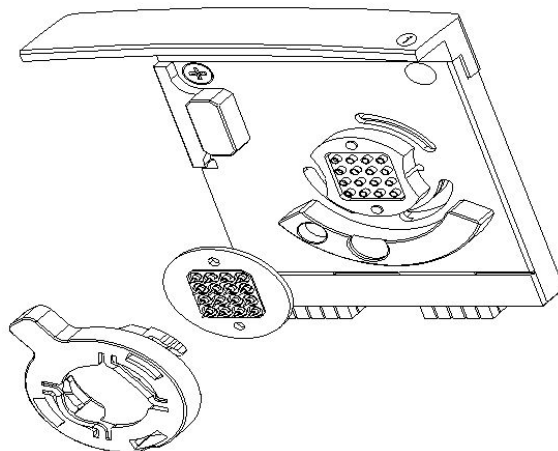

Figure 3 Bayonet cover and pin set
- 5 Remove the cover of the bayonet socket by gently pulling the plastic lever. The pin set may stick to the electrode base. Remove it by carefully pulling it off, see Figure 3 on page 124.
- 10 Place the pin set on the cartridge base and the bayonet cover over the pin set, see Figure 3 on page 124.